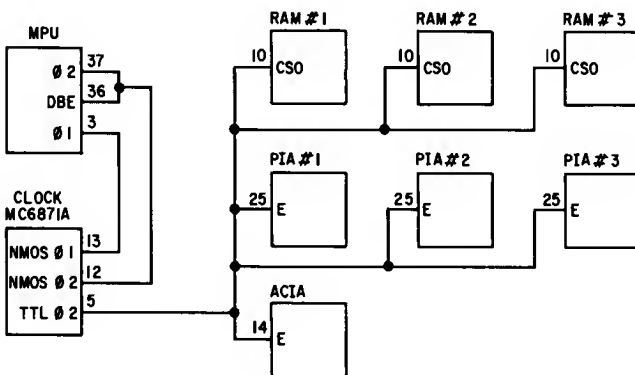

Fig. 10.6 Phase 1 and phase 2 clock signals
The ϕ_2 clock-driver NMOS output signal must be tied to the ϕ_2 and data bus enable input pins of the MPU, and the ϕ_1 clock-driver NMOS output to its ϕ_1 input pin. Phase 2 (ϕ_2) is also used as a sync signal to any part of the system that the MPU can write into. This ϕ_2 should not be the same as the NMOS ϕ_2 signal from the clock, for this is a non-TTL-compatible clock signal, but rather a TTL type ϕ_2 . This TTL ϕ_2 should be tied to the enable pins (E) of the PIAs and the ACIA in addition to one of the chip selects on each RAM. In our sample system, it will be tied to the CS0 inputs of each RAM (Fig. 10.6). Notice that the TTL ϕ_2 is not required in the ROMs, although it may be gated into a positive chip select if desired. In most clock chips, there is usually a separate ϕ_2 TTL output signal. The Motorola MC6871A clock chip has these outputs available.